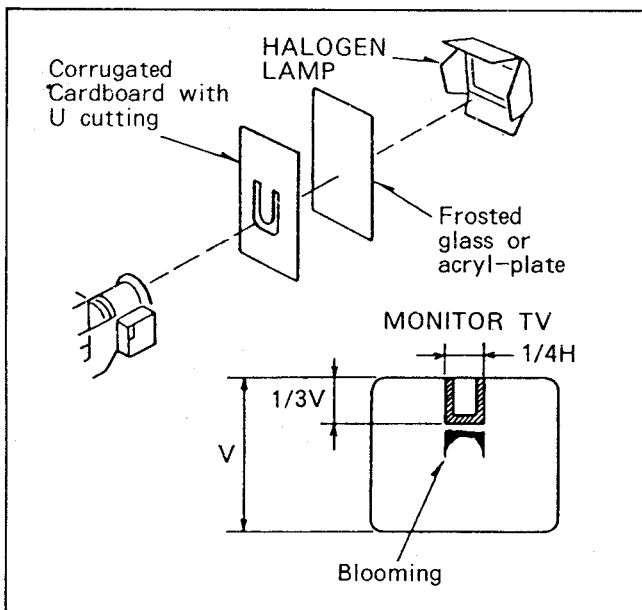

Fig. C12
- Zoom all the way in (full tele position or full wide position) and aim the camera at the Halogen Lamp as shown in Fig.C12.
- Diffuse the incoming light using frosted glass or acrylic plate. Place the cardboard which has been cut to "U" shape as shown in Fig.C12. between the diffusion plate and the camera.